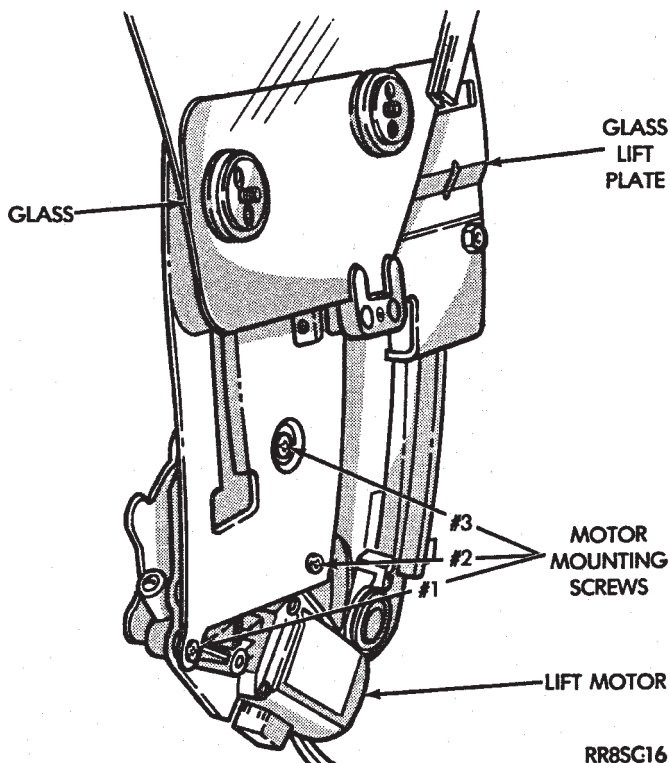

Fig. 21 Quarter Window Lift Mechanism — AJ Body
(2) Remove No. 1 and No. 2 lower motor mounting screws (Fig. 21) and loosen No. 3 to allow the motor to pivot around the third screw. This will allow easy removal of the glass and lift plate assembly and also allow some tension to be relieved from the cables.